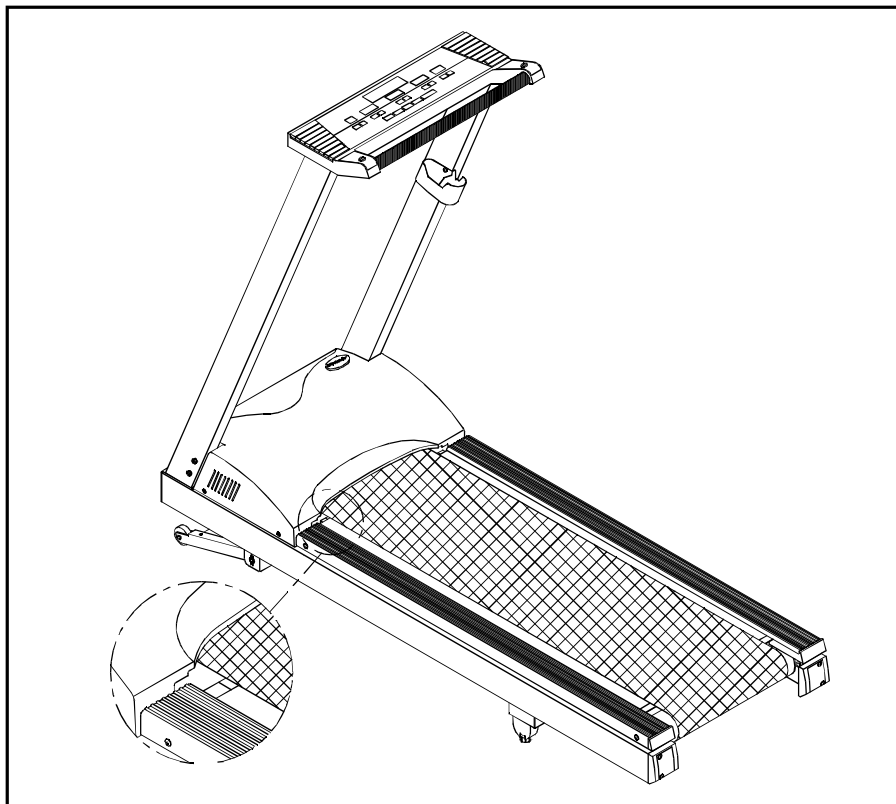

FIG.4
**IMPORTANT:** Before using the treadmill , the left edge of the running belt must be completely in the green portion of the BELT ALIGNMENT GAUGE, located on the left side of the motor shroud. Please refer to the "Maintaining your treadmill" section "Adjusting the running belt" for further information.(see Fig. 4).